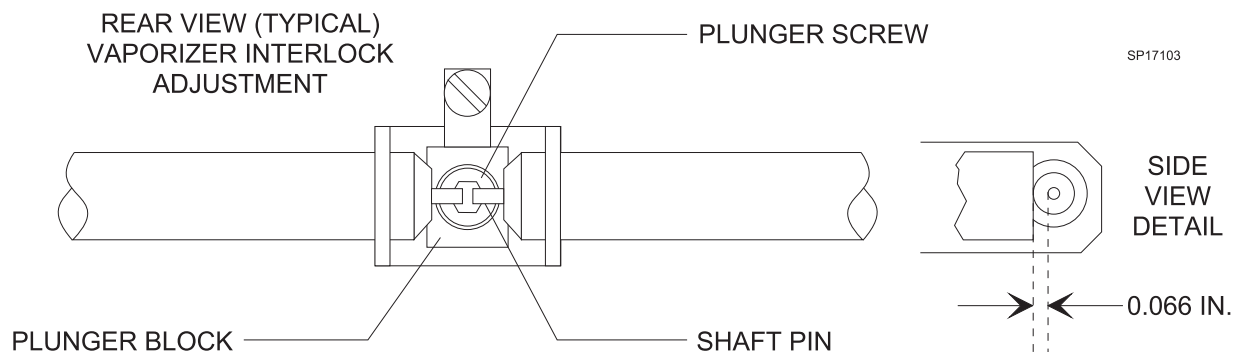

Figure 3: VAPORIZER INTERLOCK ADJUSTMENT
2. Turn the center plunger adjustment screw until the distance between the plunger block and the small pins on the horizontal shafts is approximately 0.066 in. See Figure 3.